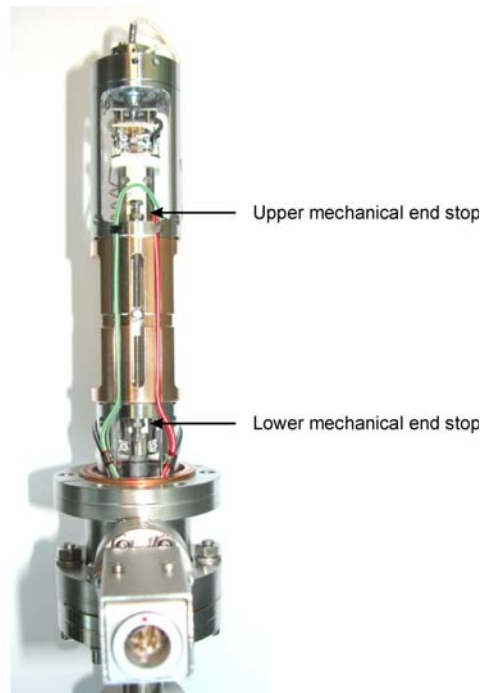

Figure 1. Tip Prep Tool, in-vacuum part shown.
- Make sure the Z-drive is fully retracted to its lower mechanical end stop, see also figure 1 on page 7. Make sure not to put too much stress onto one of the mechanical end stops.